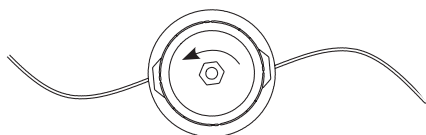

Fig.25
3. Loosen bump feed button and remove by turning CCW (Fig. 25).